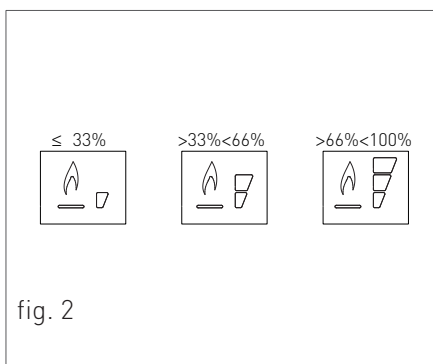

fig. 2
- › unscrew the three fastening screws '2' (fig.1) of the venturi 'V' (fig.1) using a 10 key, as shown in figure 2;
(fig.2)